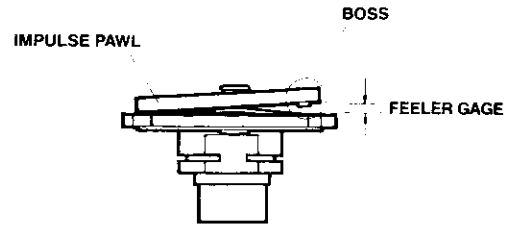

Figure 3.3.4B
7. Maximum clearance for pawls with one (1) boss is 0.150 inch. Maximum clearance for pawls with two bosses is 0.150 inch for left-hand rotation couplings and 0.140 inch for right-hand rotation impulse couplings. If the feeler gage can pass between the full width of the boss and the pawl plate, replace the impulse coupling. See Figure 3.3.4B. For coupling rotation, see magneto data plate.